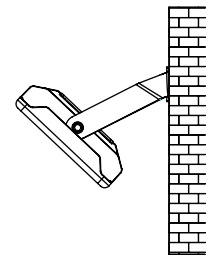

Fig. 3.3
3. Loosen the screws and adjust fixture angle as desired and re-tighten screws to set (Fig. 3.3).